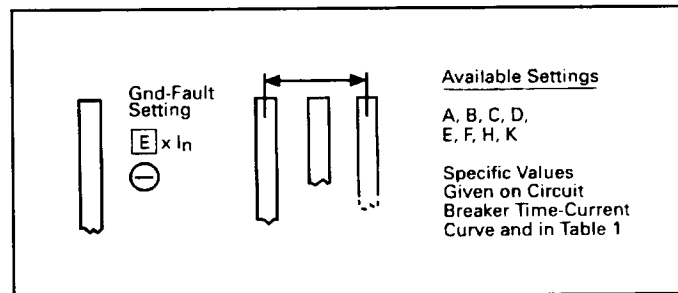

Fig. 8.6 Ground Fault Current Settings
The eight (8) Ground Fault "Pick-up" Current settings are labeled with the code letters "A" through "K" (except there are no "G" or "I" settings), as illustrated in Fig. 8.6. In general, the specific current settings range from 0.25 to 1.0 times ( $I_n$ ), the rating plug value, but cannot exceed 1200 A. The specific Ground Current Settings for each letter are listed in Table 4 and on the (G) Time-Current Curve applicable for the circuit breaker (see Section 5).